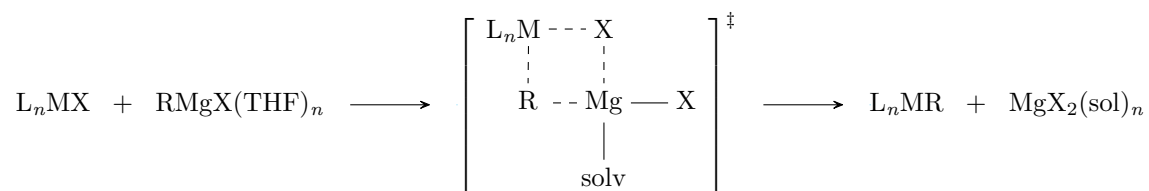

Figure 3.7: The general form of transmetalation.
- Stille (Sn): Requires either a closed (such as in Figure 3.7) or open (as from a standard nucleophilic attack) transition state.